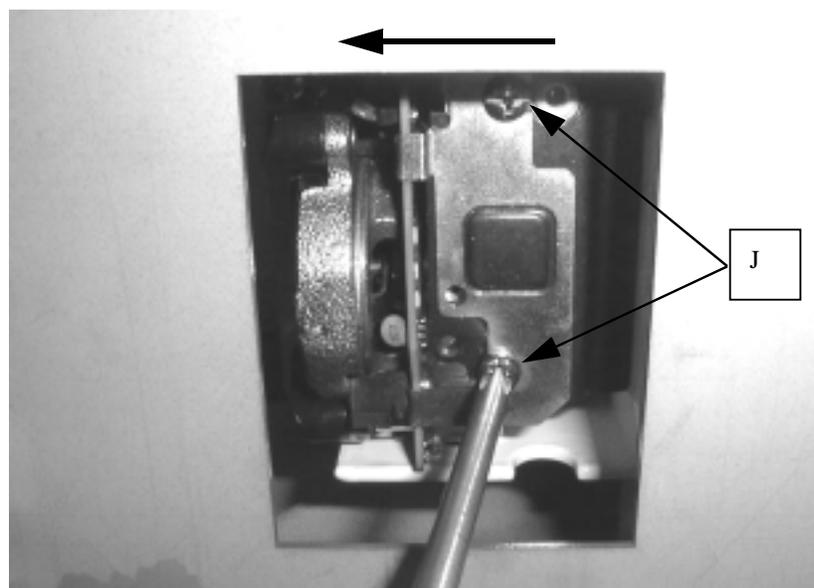

FIGURE 2-17
- Fix the gearbox rear cap and the bobbin thread sensor by two setscrews(J). In this case, press the bobbin thread sensor to the hook race body(unit) shown by an arrow as shown in Fig.2-17.